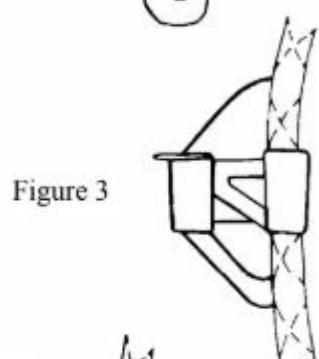

Figure 3
- Place the rope into this position (**see Fig. 3**).